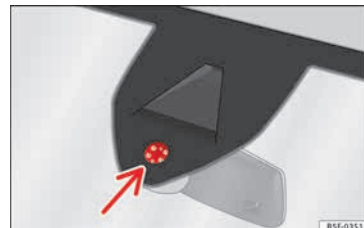

Fig. 144 Rain sensor sensitive surface
Possible causes of faults and mistaken readings on the *sensitive surface* » **Fig. 144** of the rain sensor include:
- Clean the sensitive surface of the rain sensor regularly and check the blades for damage » **Fig. 144** (arrow).